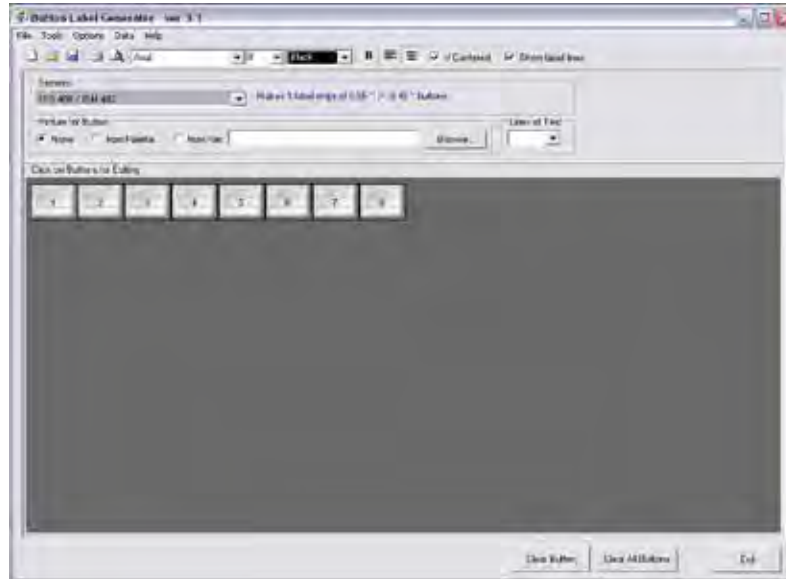

Figure 36. The Extron Button-Label Generator Window
1. To run the Button-Label Generator program, click **Start > Programs > Extron Electronics > Button-Label Generator**. Extron's Button-Label Generator window appears (see figure 36).